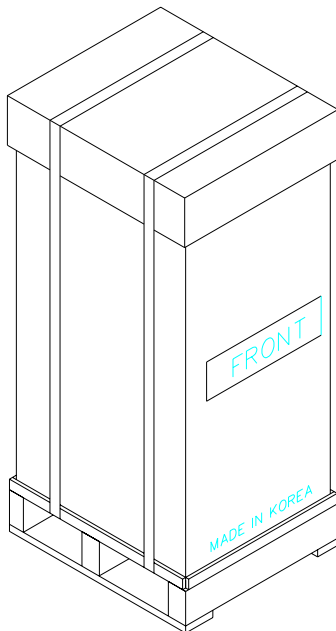

Fig. 6.1
2. Cut the straps that are fastened around the box with a knife. (refer to Fig. 6.1)